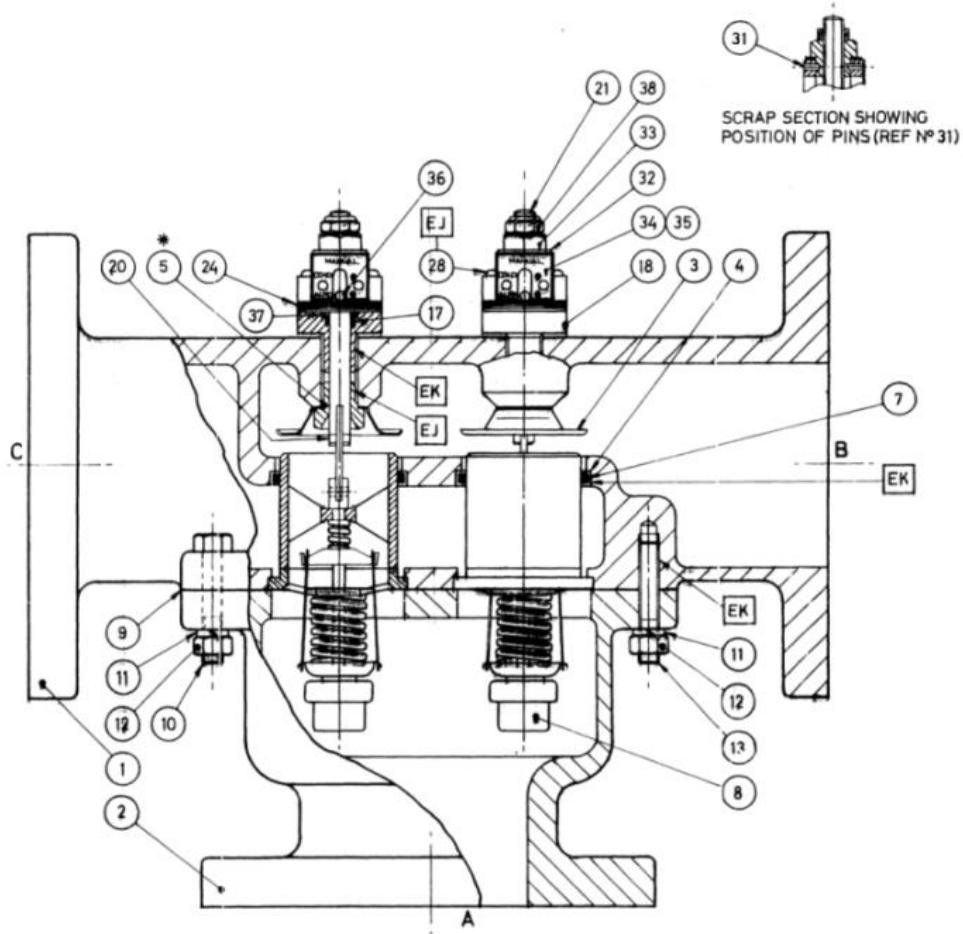

Figure 2 - Diagram showing 4" B valve with manual override
1. If emergency cooling is required then firstly loosen the locknut on the top of the override (reference Section 7.1, Figure 2, Item 38).
2. Turn adjusting nut (reference Section 7.1, Figure 2, Item 33) clockwise until indicator pin (reference Section 7.1, Figure 2, Item 36) has reached 'manual' position or desired cooling has been achieved then tighten locknut. Do not over adjust.
1. Refer to Figure 2. Remove housing nuts (Item 12) and split valve. Remove the lower housing (Item 2) taking care not to damage the elements. Remove and discard housing gasket (Item 9) ensuring any traces of the gasket are removed from the housing mating faces. Note that in some sizes of Model B Valves 'O' rings are used instead of gaskets.
4. Carefully remove the indicator pin (item 36).
9. Remove 'O' rings. BO valve item 7. BR valve item 7 & 17.